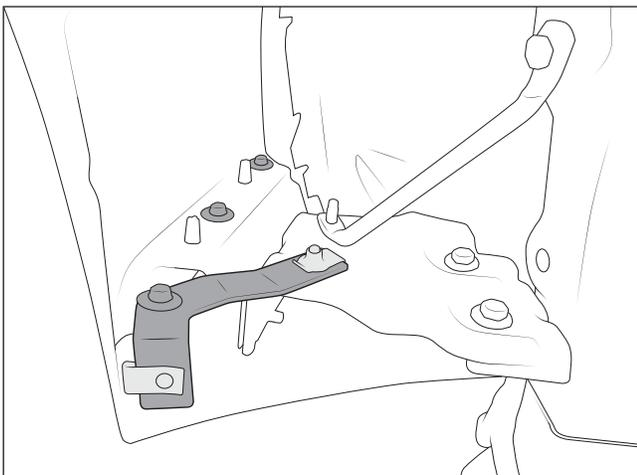

Figure 7
F. Fasten panel and upper wheel liner bracket using 7mm and 10mm hex screws as shown (fig. 7).